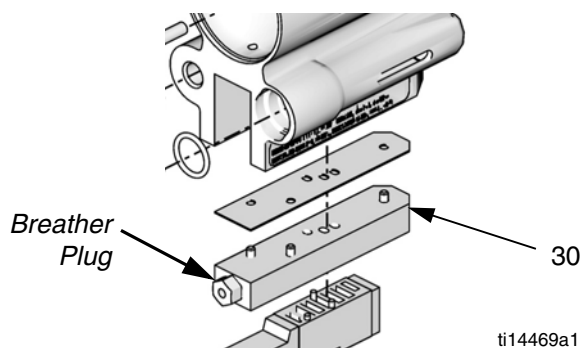

FIG. 19: Breather Plug
Remove and clean breather plug with compatible solvent. See materials of construction info in **Technical Data**, page 55. The breather plug is part of the solenoid manifold assembly (30). See FIG. 19. Use N-Methylpyrrolidone (NMP), Dynasolve CU-6, Dzolv, or an equivalent to soften cured material. Applying a light coat of lubricant will make future cleaning easier. Torque breather plug to 30-40 in-lb (3.89-4.82 N•m).